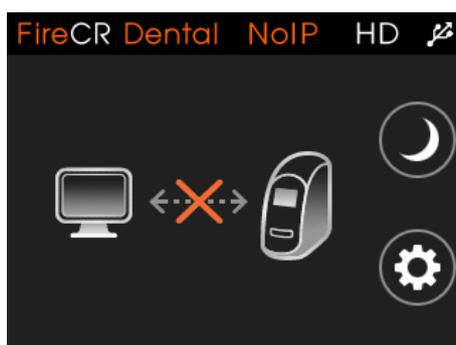

Figure 6.9 Not Connected
2. Turn on the scanner. Figure 6.9 shows the scanner LCD window. The USB Connection icon is located at the upper right corner of the window.